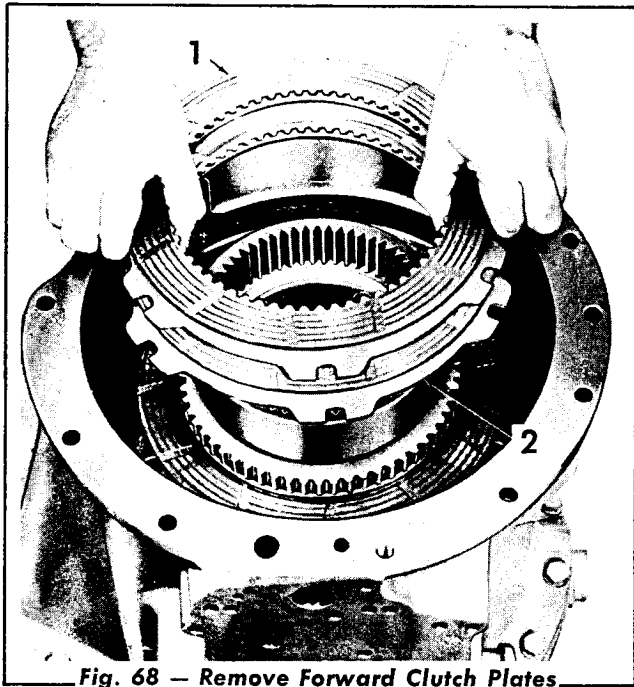

Fig. 68 — Remove Forward Clutch Plates
6. Remove the two internal and the two external splined clutch plates (Fig. 68).